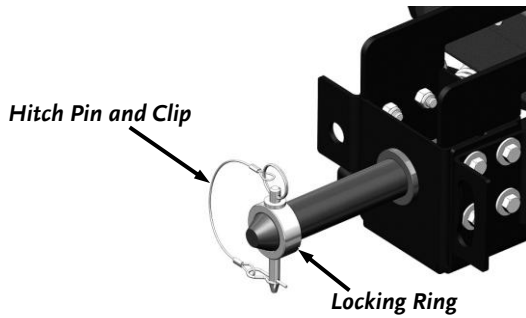

Figure 4
1. Position the 3-Point Bracket at the rear of the Tractor with the Back Plate facing away from the back of the Tractor (**Figure 4**). The opposite side of the 3-Point Bracket facing the Upper Draft Arm is open.
1. Remove the Hitch Pin with Clip from the Locking Ring and remove the Ring (**Figure 4**).